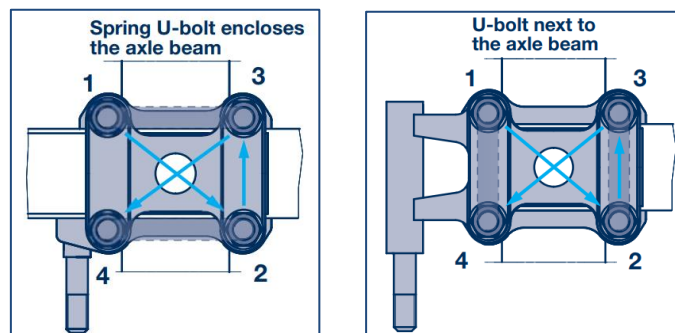

Figure 6
1. Spring seats and trailing arms are to be aligned parallel to the axle beam and the self-locking nuts are to be tightened down diagonally (see Figure 6) and equally until all components are in uniform contact. (The spring seats are only in contact with the radii of the axle beam.). No uneven tightening is allowed due to single-sided tightening of the lock nuts.